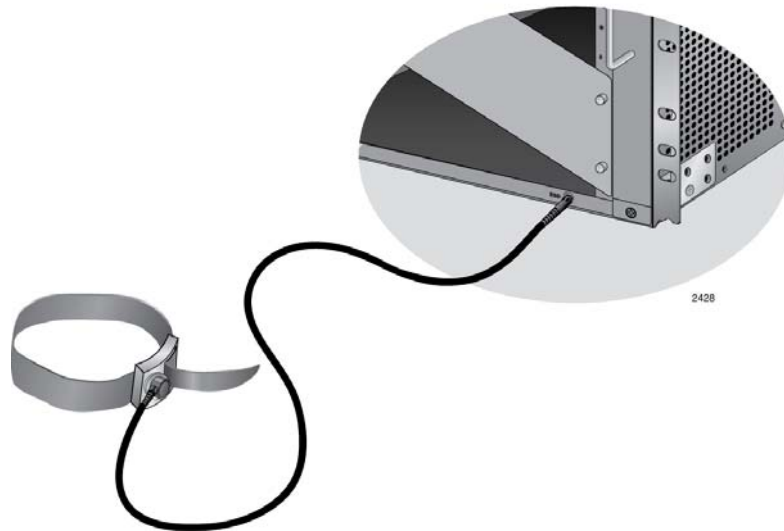

Figure 44. ESD Socket and Wrist Strap
2. Connect the wrist strap that comes with the chassis to the ESD socket in the bottom right corner of the AT-SBx8112 Chassis, shown in Figure 44. This ensures that ESD voltages safely flow to ground.